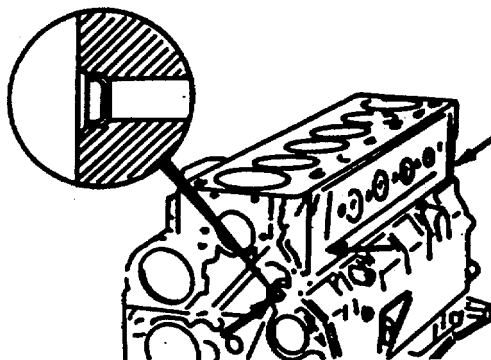

FIGURE 4-96. Install Oil Cup Plugs.
- l. Drive the three cup plugs in until they are even with the countersink in the block. (FIGURE 4-96)